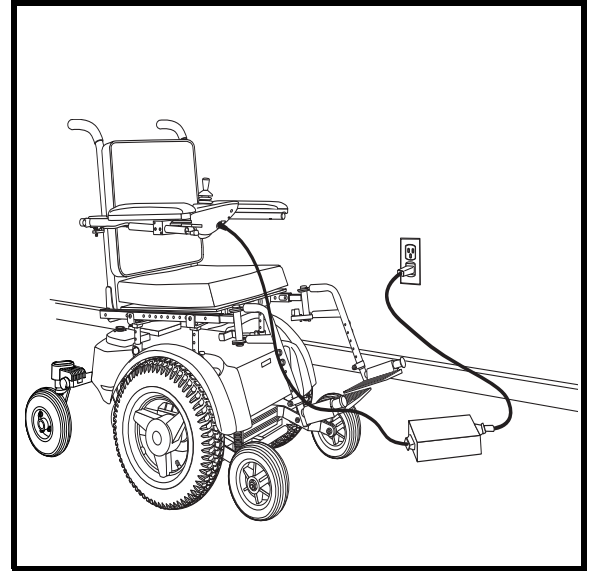

Figure 23. Battery Charging
3. Plug the off-board charger into the off-board charger/programming socket on the controller. See figure 23.